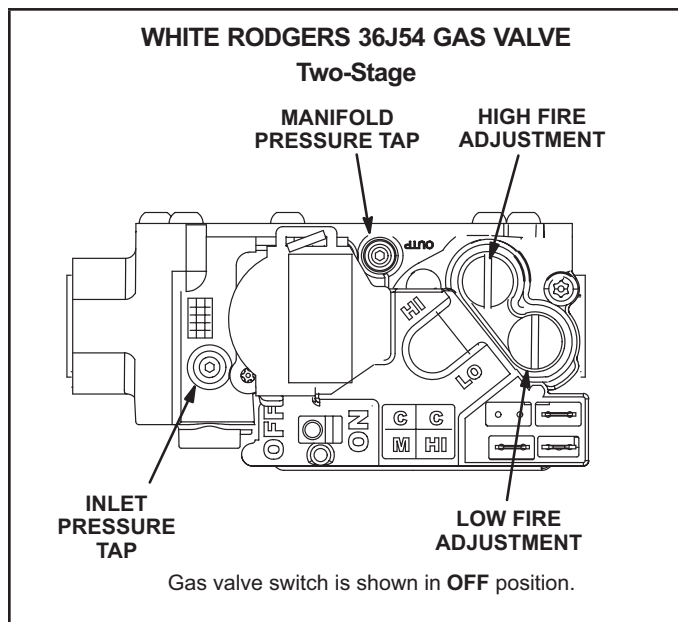

FIGURE 23
Gas Valve Operation (FIGURE 23 and 24)
- 5 - Move gas valve switch to **OFF**. See FIGURE 23 or 24.
- 6 - Wait five (5) minutes to clear out any gas. If you then smell gas, **STOP!** Immediately call your gas supplier from a neighbor's phone. Follow the gas supplier's instructions. If you do not smell gas, go to the next step.
- 7 - Move gas valve switch to **ON**. See FIGURE 23 or 24.